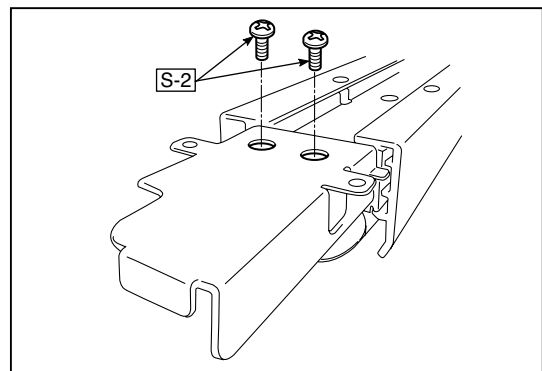

Fig. 19
2. Remove the "S-2" screws shown in the figures 19 and 20 and then remove the CIS Unit.